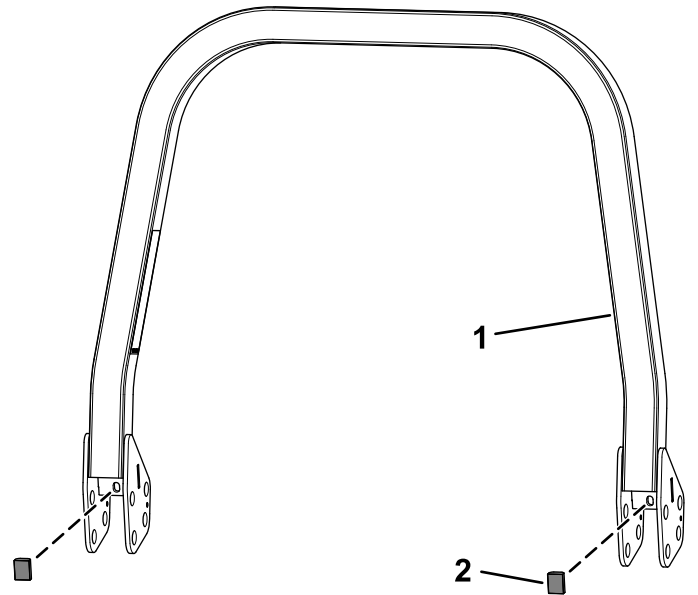

Figure 2
2. Secure the 2 bumpers to the upper roll bar assembly (Figure 2).